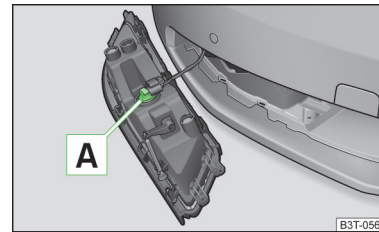

Fig. 204
- Turn bulb holder **A** » Fig. 204 in an anti-clockwise direction up to the stop and remove.